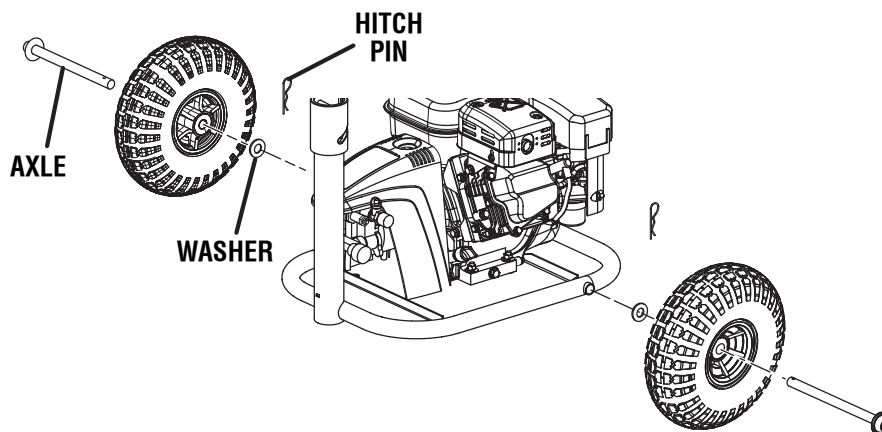

Fig. 2
See Figure 2.
- Next, slide the washer onto the axle. Still lifting the machine, slide the axle/wheel/washer combination into the wheel mounting hole in the machine base as shown in figure 2.